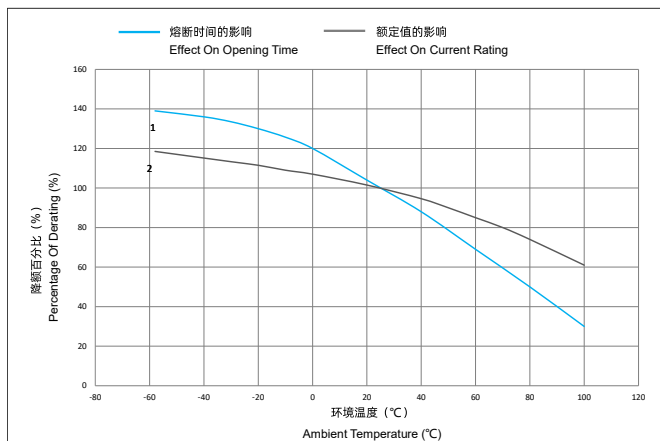

图1 FIGURE 1
- 图1表示环境温度对传统慢断及中等慢断型熔断器承载能力及  $5I_N$  熔断时间的影响。
Fig.1 effect on rating and opening time in  $5I_N$  of traditional time-lag and medium Time-Lag fuse.